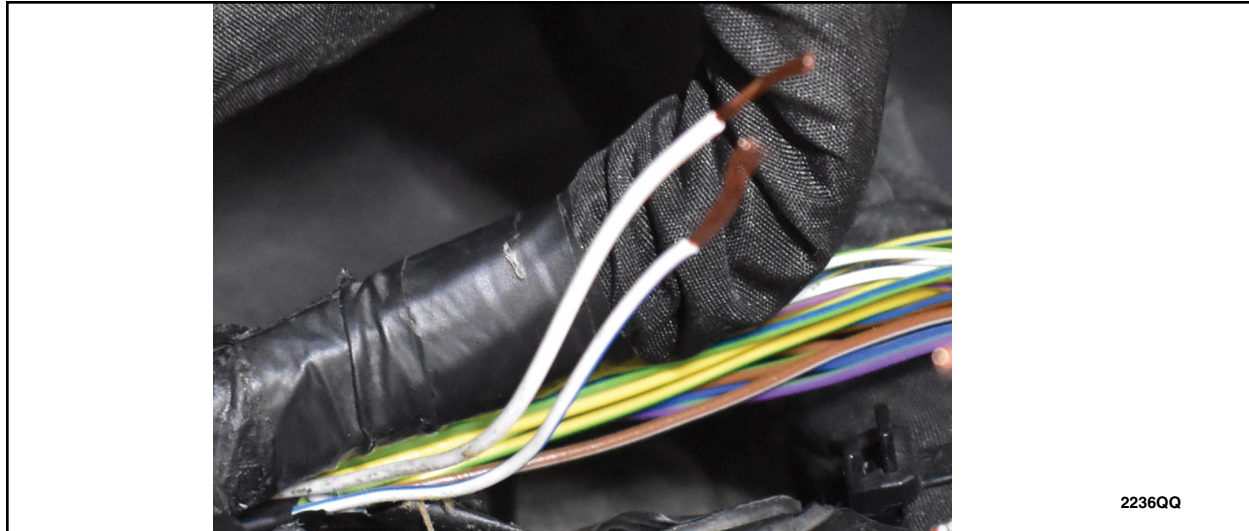

FIGURE 48
57. Strip 1" of insulation from the white/blue wire and the white wire, and terminal end. Put dual wall heat shrink tubing over white/blue wire and white wire. See Figure 48.